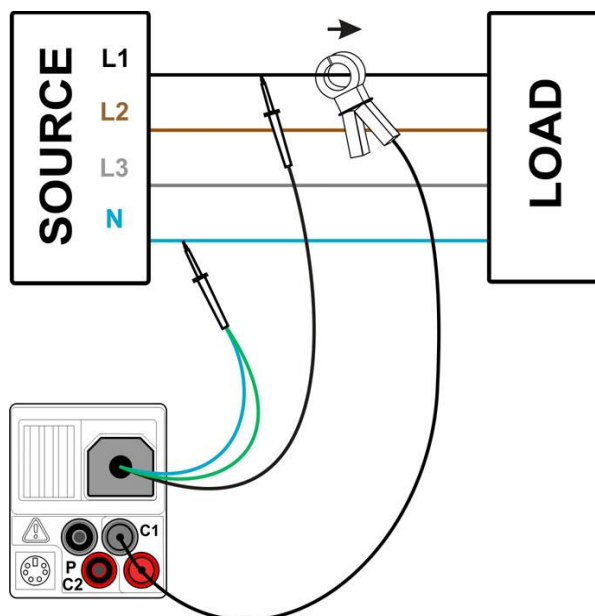

Figure 7.2: Power measurement
- ❑ **Connect** the voltage test leads and current clamp to the item to be tested (see figure 7.2).
(See figure 7.2)